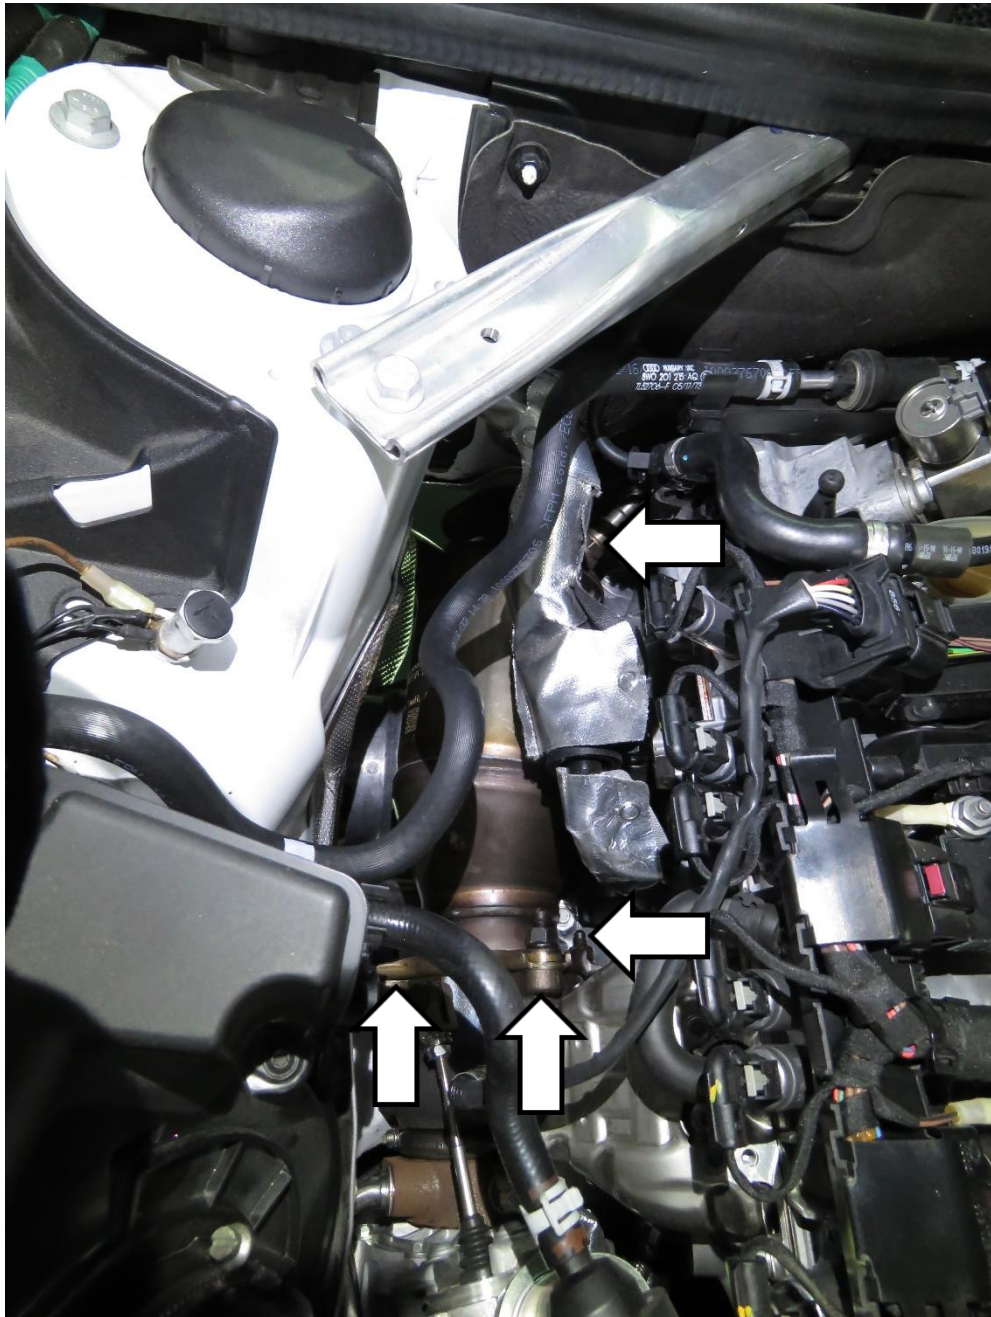

Figure 5
8. Remove cat pipe retainerscrew and remove the oxygen sensor (Figure 5)